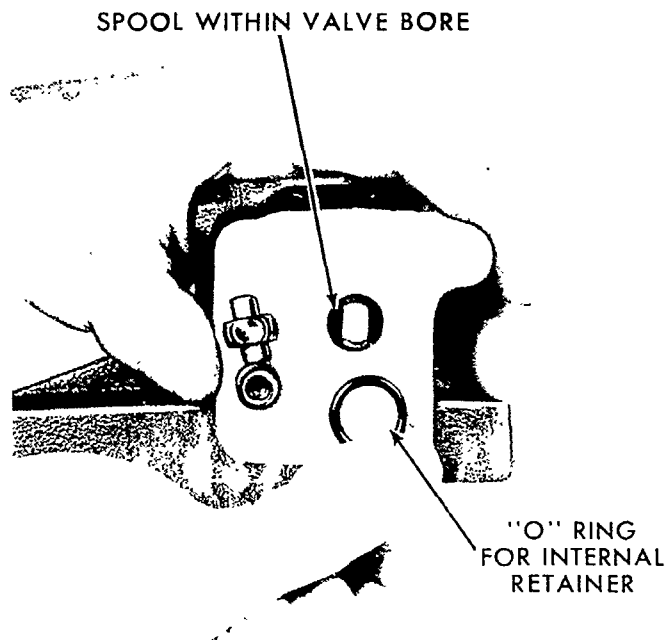

Figure 10
3. Dip new O-ring(s) in hydraulic oil and install in the rear counterbore groove(s), Figure 10.